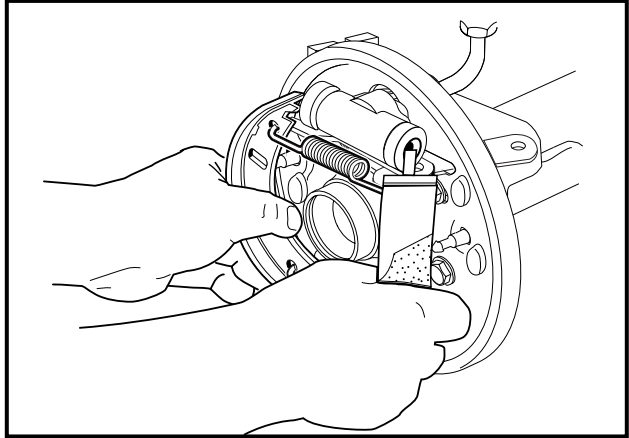

Figure 6-6 Remove Brake Shoes
4. Grasp both brake shoes and pull them, with the springs, out of brake cluster assembly (**Figure 6-6, Page 6-10**).